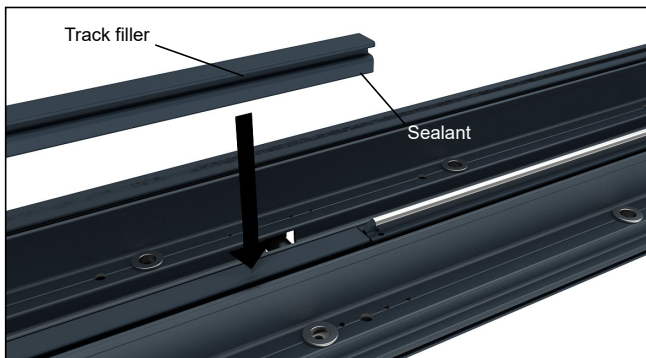

Figure 8
8. Place a 3/8" x 3/4" (10 x 19) bead of sealant flush with the end of the track filler and press into place. See figure 8.